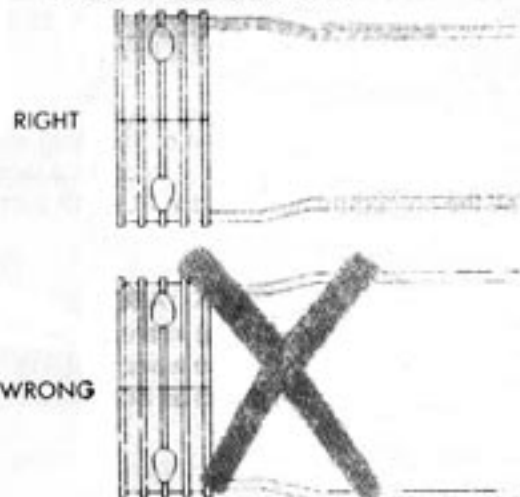
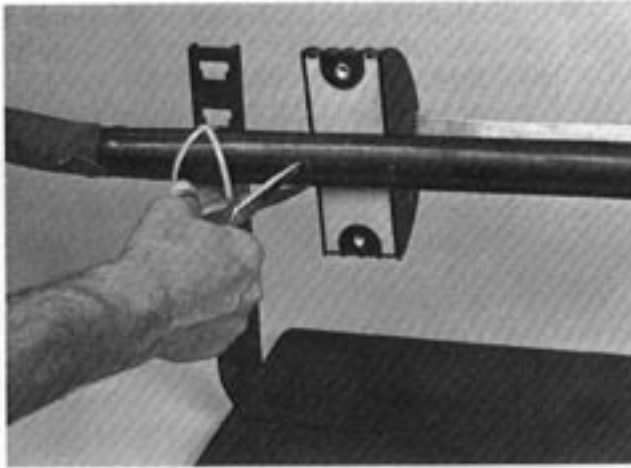

FIGURE 15 - TORQUE BAR PLACEMENT 7
FIGURE 15A - MARKING SHEATH AREA TO BE CLEANED
6.02 Select End Plate halves with threaded bolt holes in the metal reinforcing collar. Bolt these halves to a torque bar. The offset in the torque bar should face the splice bundle (Figure 15). Use this assembly to mark area to be cleaned, scuffed, and the cable opening (Figure 15a).